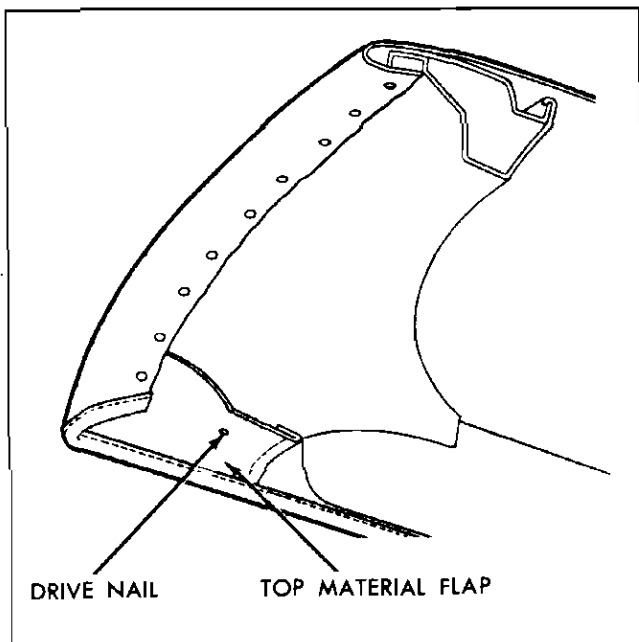

Fig. 7-22 Top Material at Front Roof Rail
4. Loosen front end of each side roof rail front weatherstrip sufficiently to detach top material flaps which are nailed and cemented to rails (Fig. 7-22).